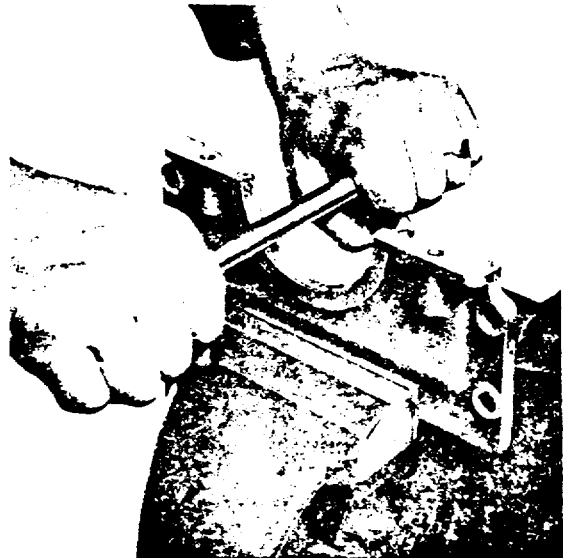

*Fig. H.6.
5. Refit the rear main bearing bridge piece together with new joints between the cylinder block and bridge piece and new sealing rubbers at the bridge piece ends (see Fig. H.6). Secure the bridge piece to the cylinder block with the two recessed screws and fit the two setscrews securing the rear main bearing oil seal housing to the bridge piece.
11. Refit the rear main bearing bridge piece to the cylinder block together with new joints and sealing rubbers (see Fig. H.6). Ensure that the rear face of the bridge piece is in alignment with the rear face of the cylinder block (see Fig. H.7).